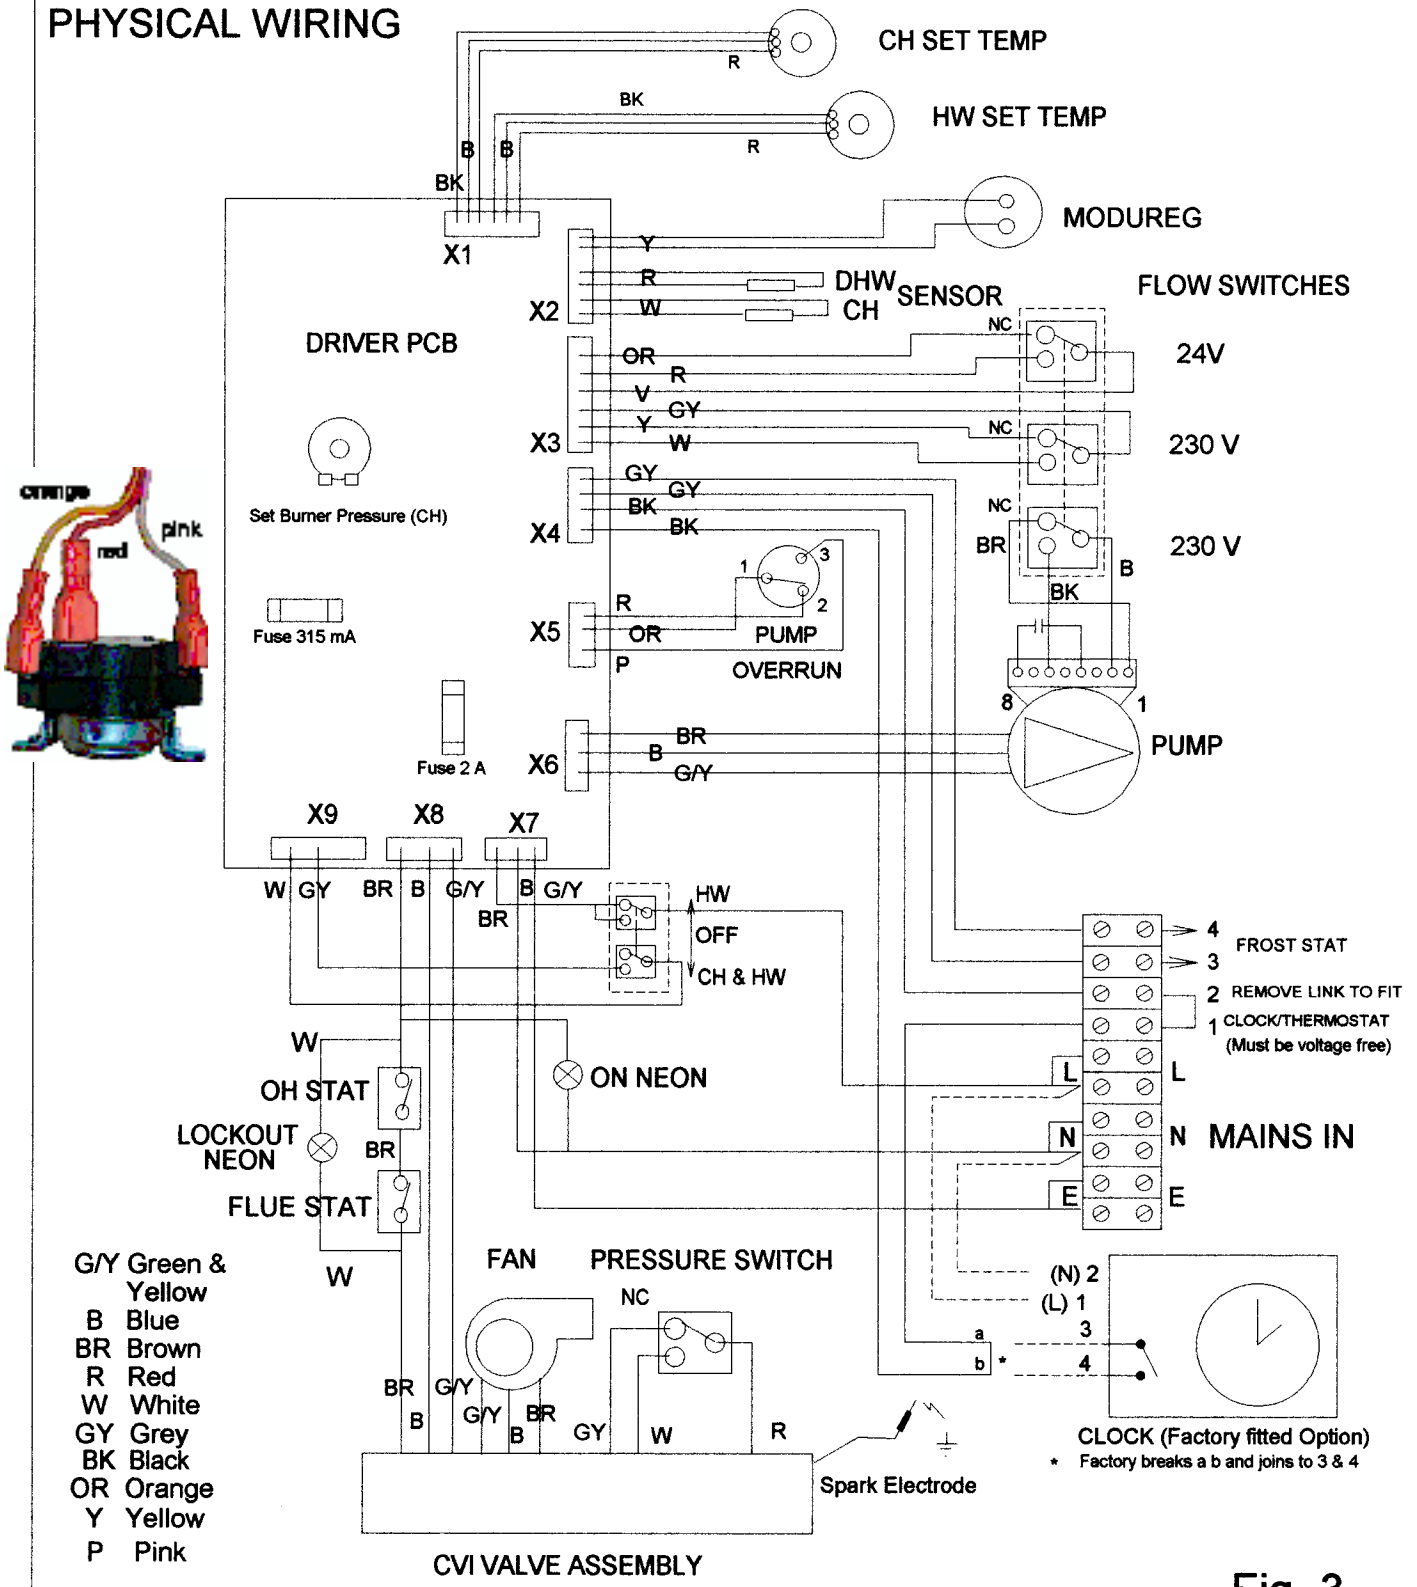

Fig. 3
The boiler internal wiring is shown in schematic form in Fig.3, and 4 connections are as follows:-
- To set the Central Heating output, select CENTRAL HEATING & HOT WATER on the front panel switch and then adjust the burner pressure potentiometer on the driver Pcb (Fig. 3) to that given in the Datable.